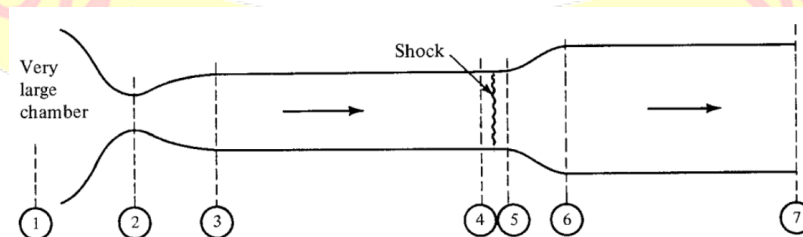

Figure 1
- There is no friction in the system shown in Figure 1 except in the constant-area ducts from sections 3 to 4 and from 6 to 7. Sketch the T-s diagram for the entire system. Assume adiabatic flow throughout the system.